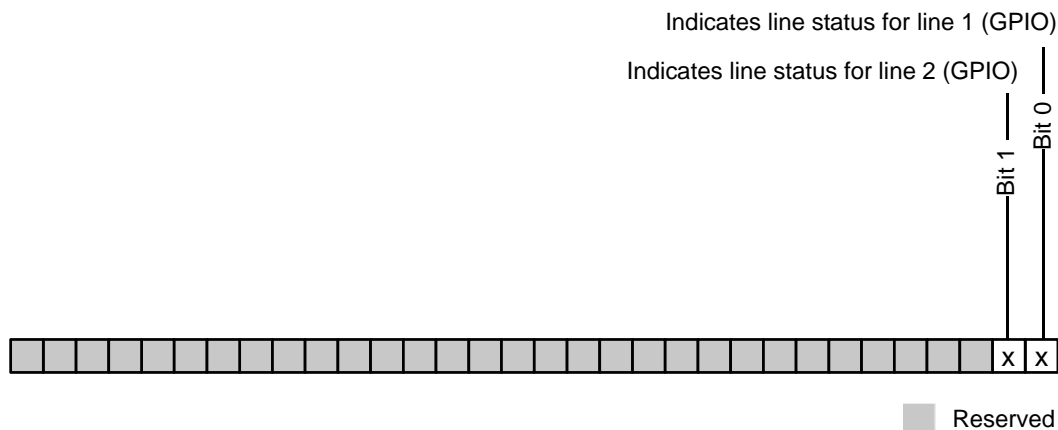

Fig. 23: Bit Field of the LineStatusAll Parameter: Bit Numbers and Assignment of I/O Lines
- indicates the line status of both I/O lines. As shown in Figure 23, each bit in the value is associated with one I/O line and the bits will indicate the status of the lines.
The following table refers to the bit field shown in Figure 23 and lists all possible LineStatusAll parameter values (hexadecimal numbers) and related binary numbers.